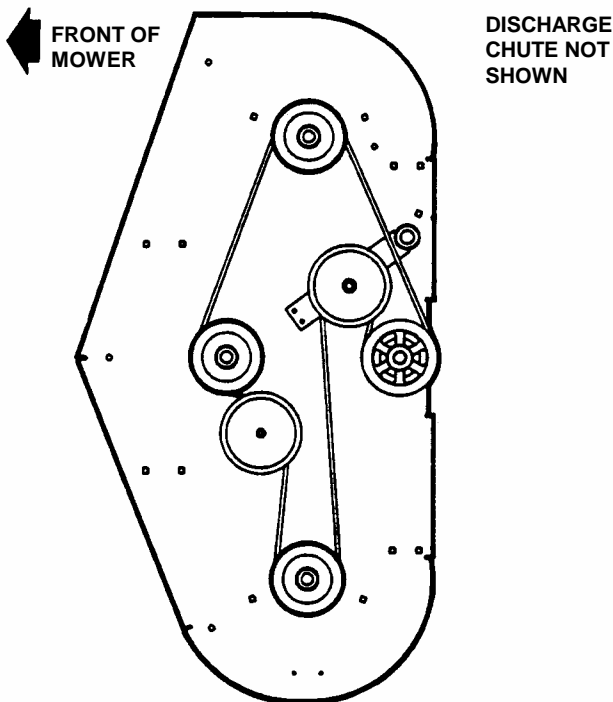

FIGURE 4.8
1. Route belt around blade pulleys and idler pulley as shown. It may be necessary to use a pry bar to pull idler pulley back to install belt. See Figure 4.8.